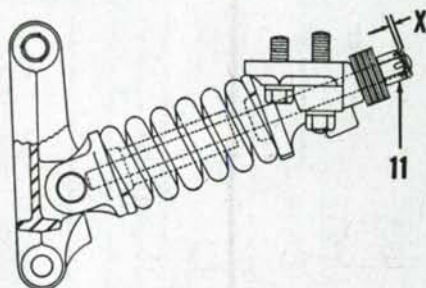

Fig. AC177—Model CA pump regulating spring adjustment is made with nut (11) so as to preload the spring approximately 3/16 inch.
proximately 3/16 of an inch of preload as shown in Fig. AC177. This can be obtained by backing off the nut (11) until spring is just free endwise, then tightening the nut until the spring has been shortened 3/16 inch which is the equivalent of 3 complete revolutions of the nut.